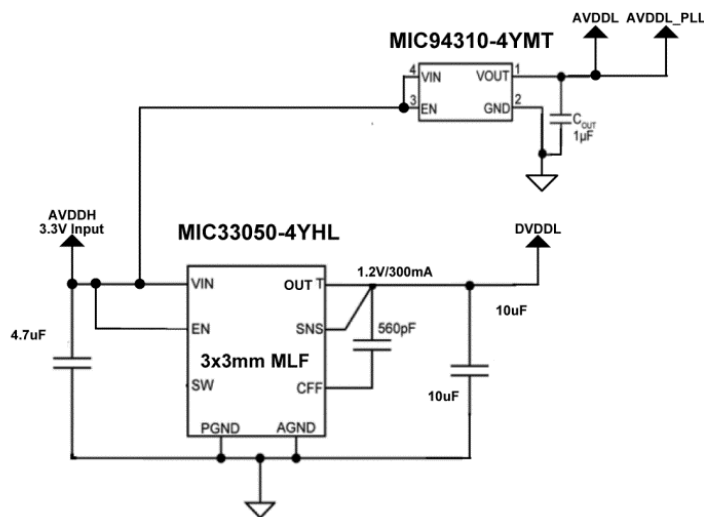

Figure 11. Low EMI/High Quality Link Solution Using Clean Analog 3.3V
- Application board does feature clean (low-noise/low ripple) 3.3V generated by an LDO. Recommended solution is described in Figure 11.